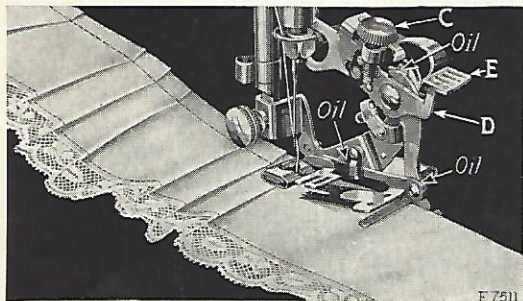

FIG. 42
The ruffler can be adjusted for group plaiting by lifting the adjusting lever (E, Fig. 42) and moving
it to the right so that the top of the projection (D, Fig. 42) enters the small slot indicated by the star on the adjusting lever. This should be done at the points where you wish to make the space between the plaits. The ruffler will then stop and plain stitching will be made. When the desired space has been made, adjust the lever (E) so that the projection (D) enters either the slot marked "6" or the slot marked "12". By alternately making groups of plaits and plain spaces, as shown in Fig. 42, very attractive work can be produced.
Occasionally apply a drop of oil to the working parts of the ruffler at each of the places indicated by arrows in Fig. 42. After oiling, operate the ruffler on a waste piece of material to prevent the oil soiling the work. If the ruffler does not plait evenly, a drop of oil may remedy the trouble.